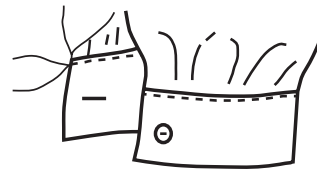
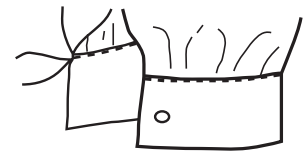

Figure 22
Figure 23
4. From right side of sleeve band, topstitch (Figure 22) or stitch-in-the-ditch (Figure 23) to finish the band.